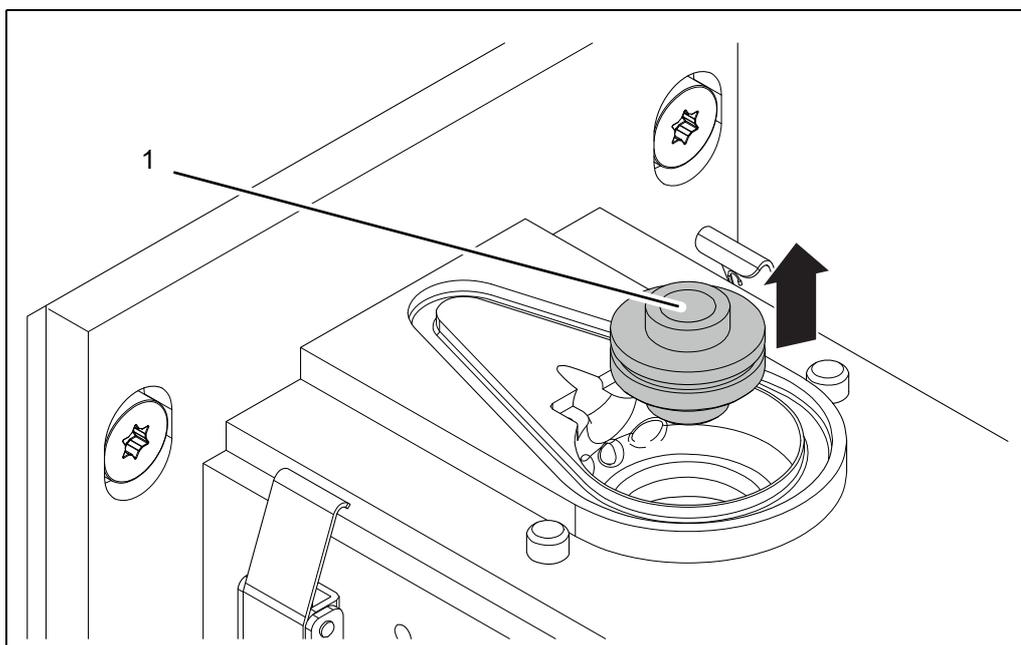

Fig. 9-6 Ceramic insert (example)
4. Place the screw head pin from the accessory case into the ceramic insert (1, fig. 9-6) from the top and expand the pin with the screw head.